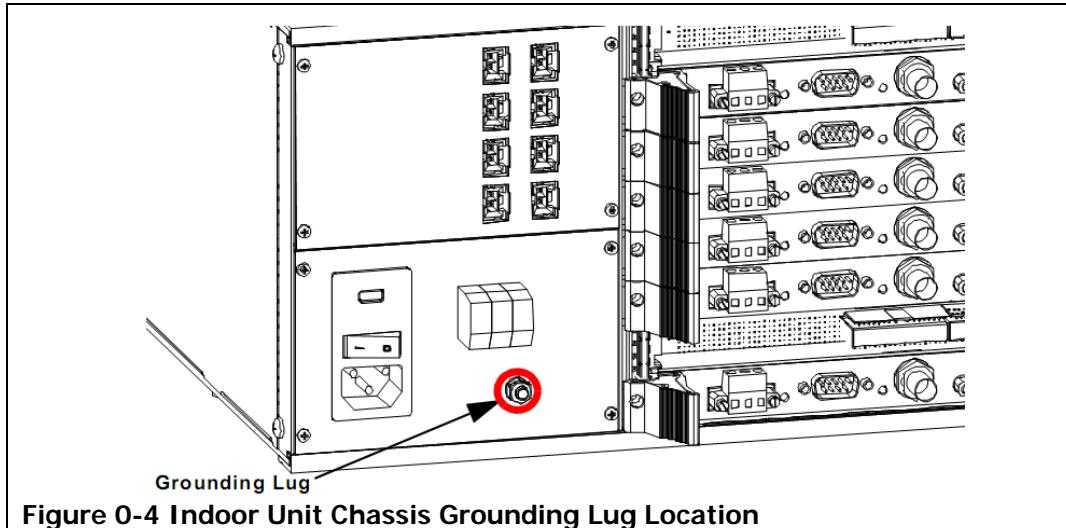

Figure 0-4 Indoor Unit Chassis Grounding Lug Location
- 2.1. Remove the nut and lock washer from the grounding pole, located at the rear of the indoor unit's chassis, as shown in Figure 0-4 Indoor Unit Chassis Grounding Lug Location.